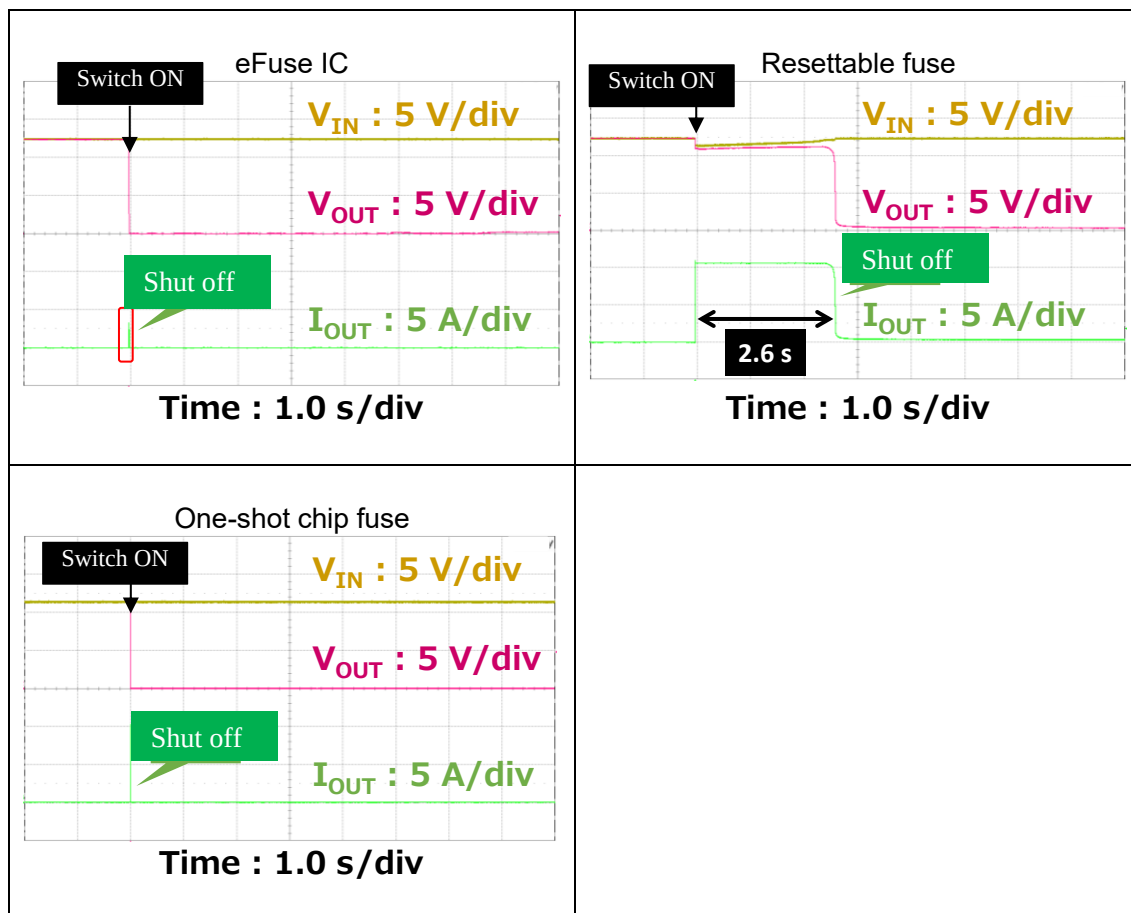
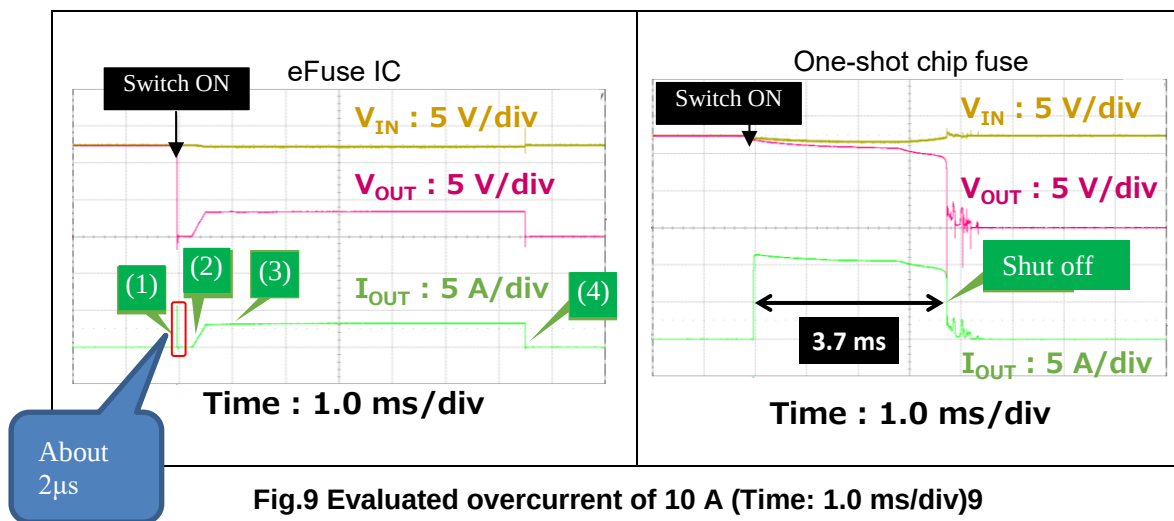

Fig.8 Evaluated overcurrent of 10 A (Time: 1.0 s/div) 8
Fig.9 Evaluated overcurrent of 10 A (Time: 1.0 ms/div)
Figure 8 shows the operation of various fuses when the overcurrent is set to 10 A. Fig.8 Evaluated overcurrent of 10 A (Time: 1.0 s/div) 8
eFuse IC and one-shot chip fuse are shown in Fig. 8 with a very short cut-off duration and more detailed comparisons with a time-base of 1.0 ms/div are shown in Fig. 9. Fig. 9 Evaluated overcurrent of 10 A (Time: 1.0 ms/div)
Consequently, eFuse IC interrupted the current path instantaneously (about 2 μ s: within the green frame in Fig. 9-left (1)), whereas the one-shot type chip fuse interrupted the path after 3.7 ms.
This section explains the behavior of eFuse IC after the overcurrent protection function is activated (Fig. 9, left side).
- When an overcurrent occurs, the eFuse IC cuts off the current after detecting the overcurrent. (in the red frame in Fig. 9 (1)). Fig. 9 Evaluated overcurrent of 10 A (Time: 1.0 ms/div)
- Thereafter, after several hundred μ s, the interruption of the current path (conduction) is released (the portion (2) in Fig. 9). Fig. 9 Evaluated overcurrent of 10 A (Time: 1.0 ms/div)
- At this time, if the overcurrent has not been eliminated, I_{OUT} is limited to 3 A (I_{LIM}) by the overcurrent limiting function (as shown in (3) in Fig. 9). Fig. 9 Evaluated overcurrent of 10 A (Time: 1.0 ms/div)
The current path is interrupted again (in Fig. 9 (4)). Fig. 9 Evaluated overcurrent of 10 A (Time: 1.0 ms/div)